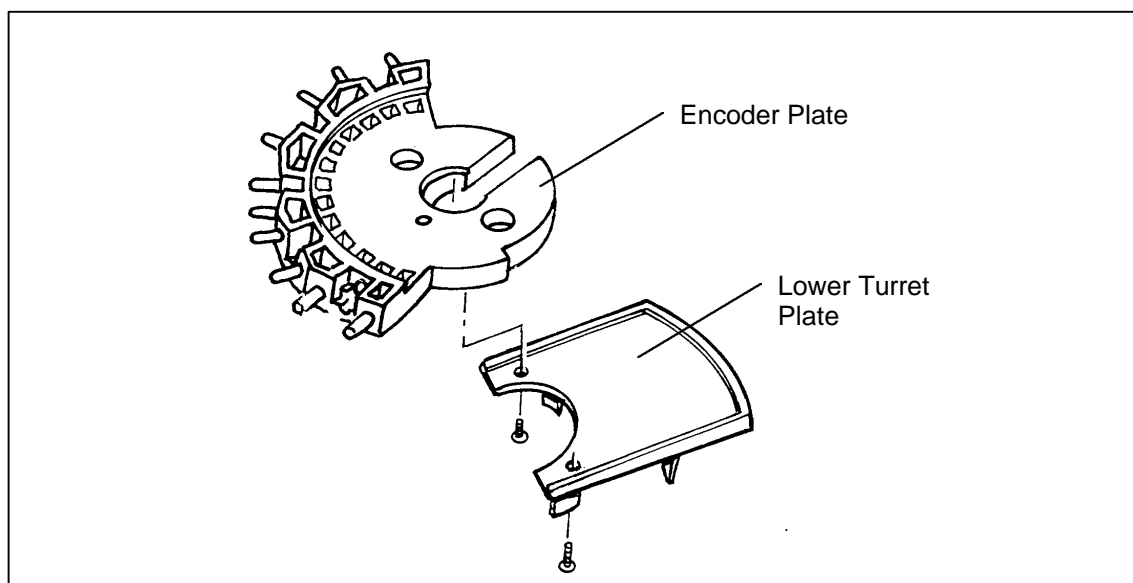

Figure 5-12 Encoder Plate and Lower Turret Plate
1. Removal (Figure 5-12 and 5-12a)